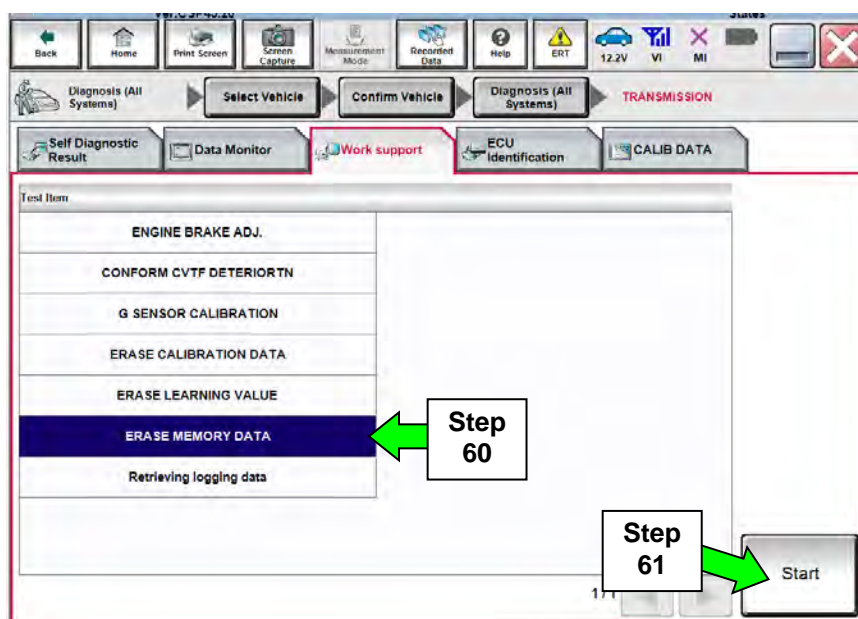

Figure 34
59. Navigate C-III plus to the screen shown in Figure 34.